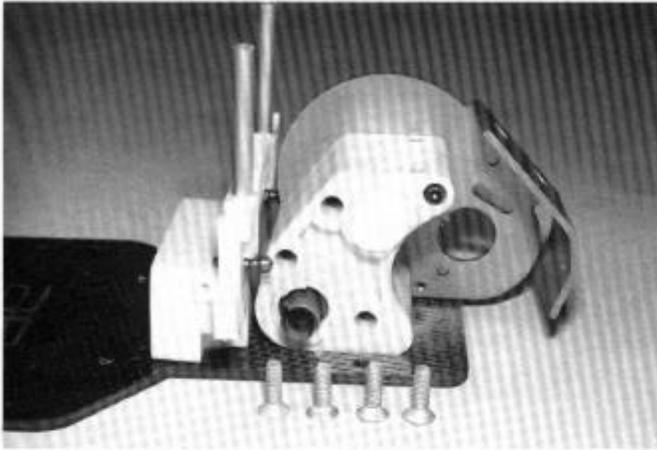

FIG. 95
□ **FIG. 95**—Mount the transmission to the chassis, as shown, with the four aluminum screws, but DO NOT tighten the screws all the way down yet.